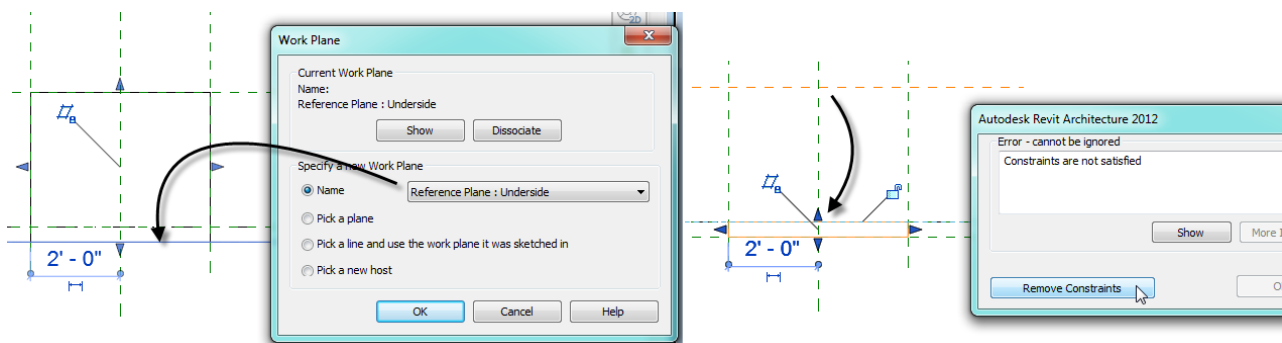

Figure 14
3. Select the Extrusion. On the ribbon, click the Edit Work Plane button. From the Name list, choose: **Reference Plane: Underside** and then click OK (see the left side of Figure 14).
4. Drag the control grip down and snap it to the Ref. Level. (This will cause an error). When the error dialog appears, click the: Remove Constraints button (see the right of Figure 14).